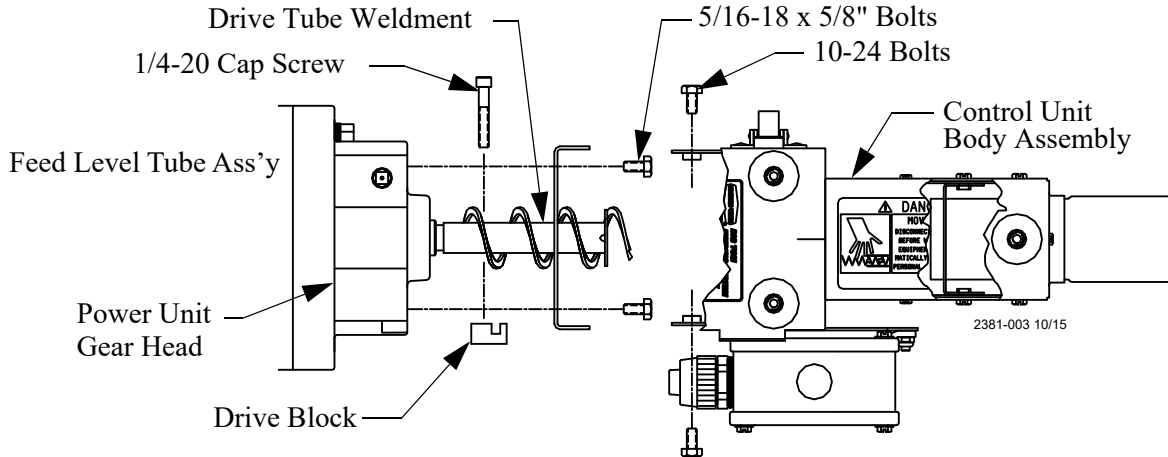

Figure 31. Control Unit Installation
1. Remove the four 5/16-18 x 5/8" bolts from the parts package and use them to bolt the anchor plate to the power unit. Install the anchor plate with the angled end pointing down (See **Figure 31**).
Mount the control unit on the end of the feeder line and secure with a Tube Clamp. See **Figure 31** (on page 29). The distance between the control unit pan and the last pan should be 5’ (1.5 m) or less.